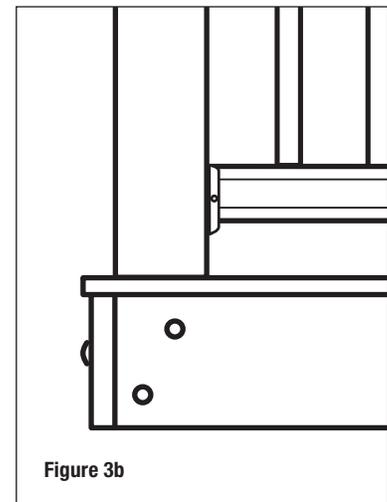

Figure 3b
**Step 3** Position, plumb with a level, and clamp the rail post on the interior face of the joist. Plumb again. The 4x4 railing post should be bolted to the inside of the joists using two 1/2"x6" galvanized carriage bolts. Corner posts use a third carriage bolt inserted through the adjacent joist (**Figure 3b**).
**Step 2** Position, plumb with a level, and clamp the rail post on the interior face of the stair stringer. Plumb again. The 4x4 railing post should be bolted to the inside of the stair stringer using two 1/2" x 6" galvanized carriage bolts. Corner posts use a third carriage bolt inserted through the adjacent joist (refer to Figure 3b). Ground level posts should be set in concrete.